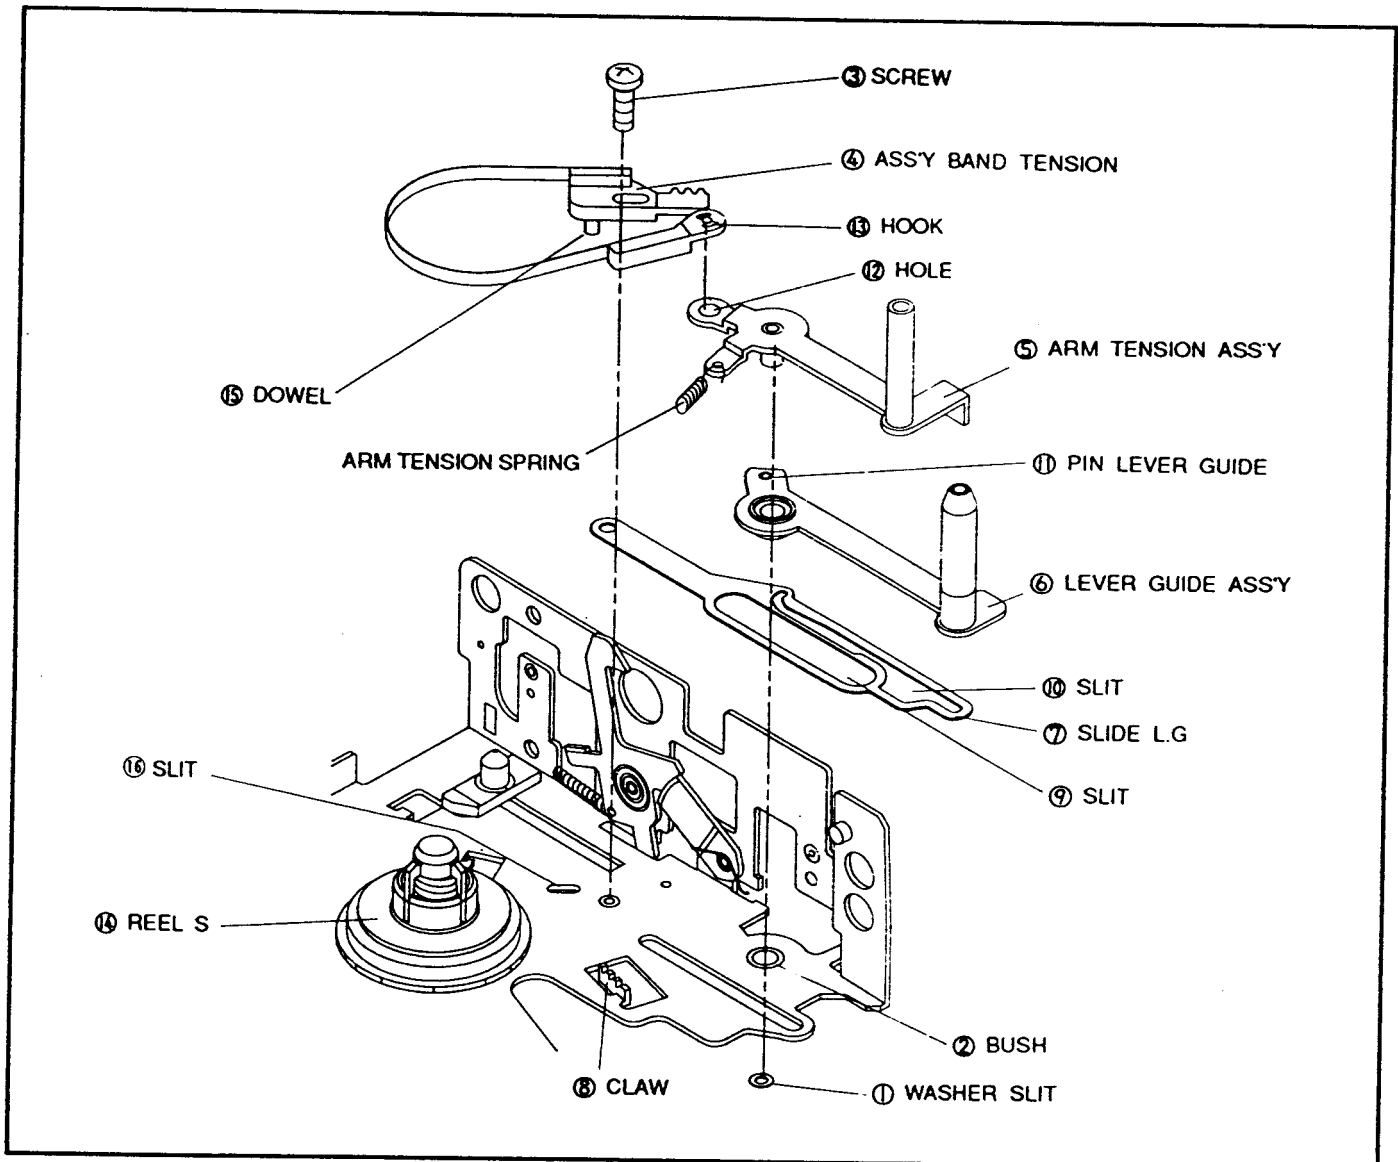

Fig. 24
- 1) Remove the Ass'y Tension Band. (Refer to Fig. 24)
- 2) Remove the Washer Slit ①, and then remove the Lever Brake S ② and Spring Lever Brake S ③.
- 3) Remove the Washer Slit ④, and Spring Arm Brake S ⑤, and then remove the Arm Brake S ⑥.
- 4) Lift up the Reel S ⑦, and then take out the Washer Plane ⑧.
- 5) Remove the Washer Slit ⑩, and then remove the Lever Brake T ⑪.
- 6) Remove the Washer Slit ⑫, and then remove the Ass'y Arm Clutch ⑬.
- 7) Lift up the Reel T ⑨.